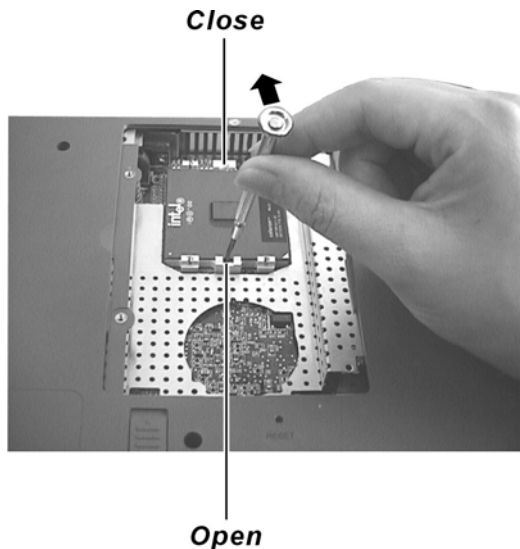

Figure 2-4
4. Insert a minus screwdriver 101 (JIS standard) into the “OPEN” hole of the socket, and push the screwdriver toward the CPU to free the CPU. Now you can take out the CPU from the socket. (figure 2-4)